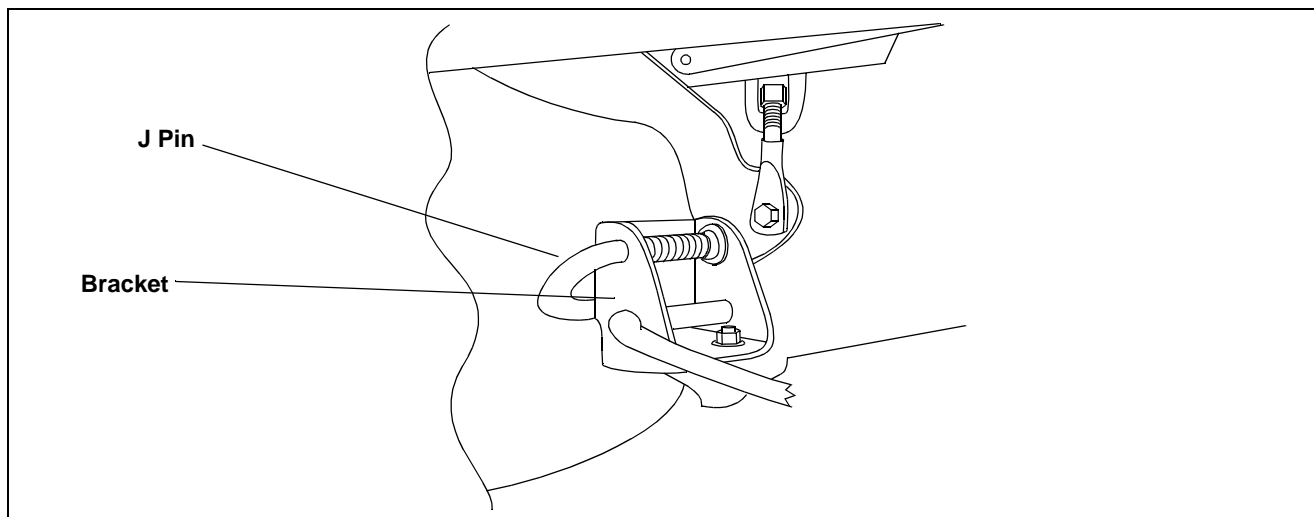

Figure 24
8. Pull the J pin out until the end of the pin is past the bracket. (See Figure 24)